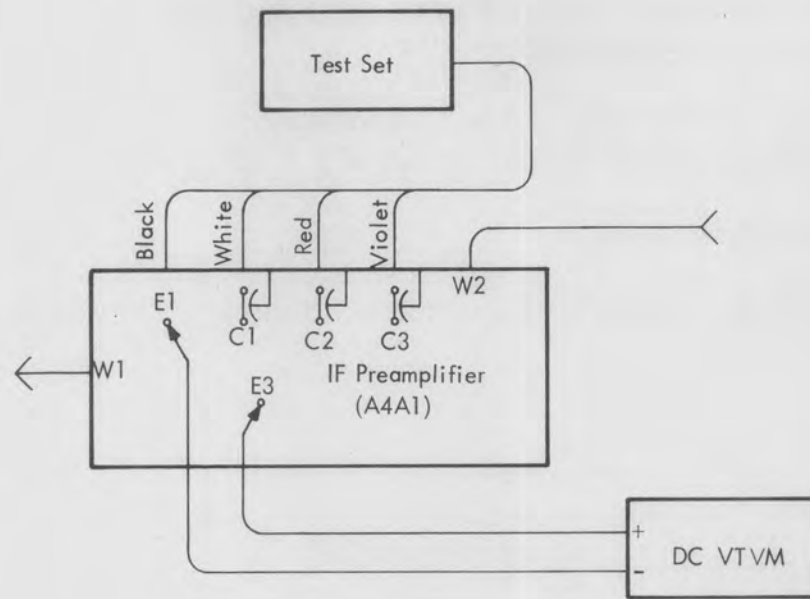

Figure 5-5. AGC Threshold Adjustment Setup
- (1) Connect test equipment as shown in figure 5-5. Set the test set AGC control to zero.
- (2) Connect dc vtvm between ground and A1E3 of A4.
- (3) Adjust A2R4 for a +3V indication on the vtvm.